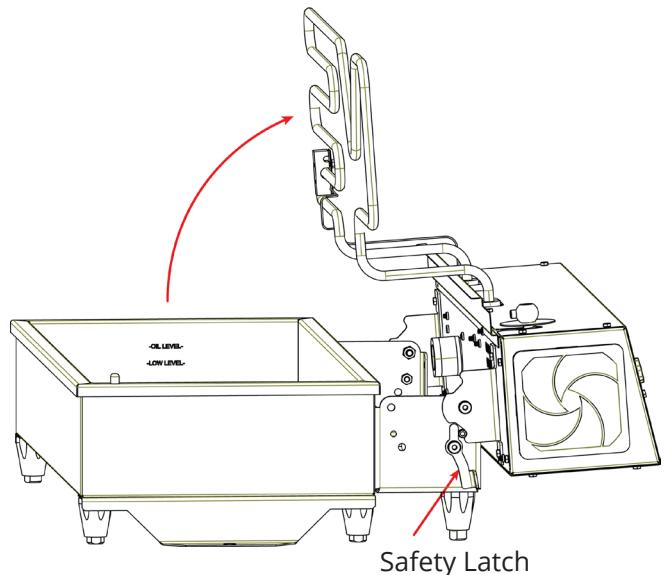

Figure 15
14. Lift the kettle out of the fryer case. The safety latch on the outfeed side will automatically engage, preventing the elements from falling forward. See Figure 15.